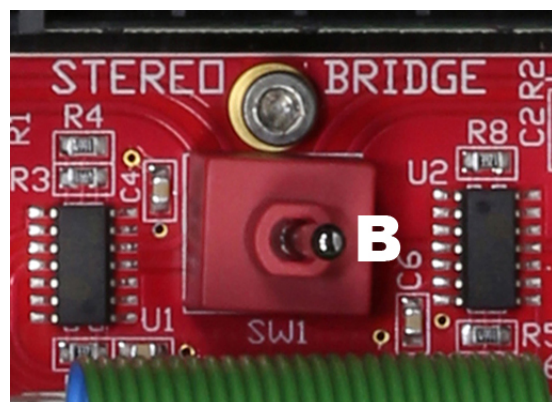

Figure 9: SW1 Dip Switch in Bridge Position
6. For **STEREO MODE** move switch to position A. (Figure 9)